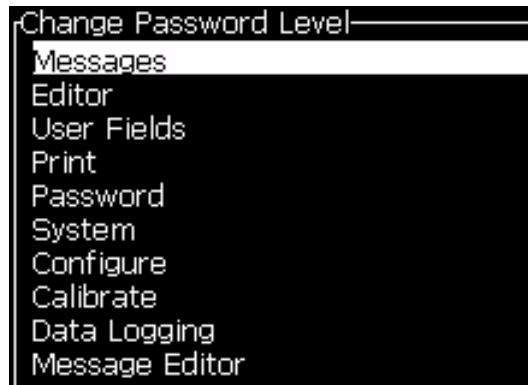
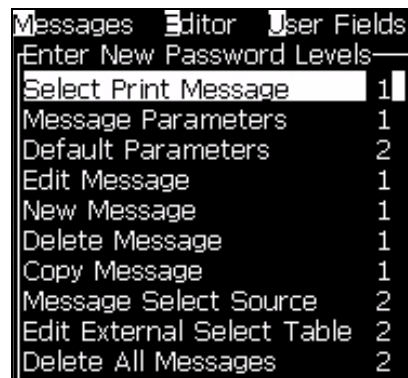

Figure 4-9: Change Password Level
Figure 4-10: Enter New Password Levels
- 1 Press *Alt + w* and select *Set Password Levels* (see Figure 4-8) to open the *Change Password Levels* screen (see Figure 4-9).
- 2 Select the menu (see Figure 4-9) that needs a change in the password level access and press the *Enter* key. The *Enter New Password Level* screen appears (see Figure 4-10 on page 4-5).